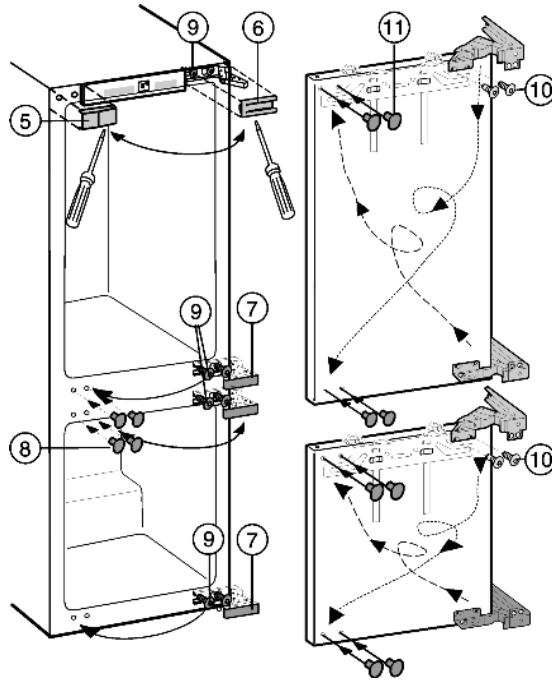

Fig. 2
- ▶ Lift off covers Fig. 2 (5,6,7,8) using a slot screwdriver.
- ▶ Just loosen top and bottom screws Fig. 2 (9) on the body of the appliance.
- ▶ Swap screws Fig. 2 (9) to the opposite side and screw them in a little.
- ▶ Undo screws Fig. 2 (10) and change over the hinges diagonally.
The screws Fig. 2 (10) are self-tapping: use a cordless screwdriver.
- ▶ Close off the now unused fastening holes with the plugs Fig. 2 (11) supplied.
- ▶ Hang doors on the pre-fitted screws Fig. 2 (9) and tighten screws.
- ▶ Re-attach all covers *Fig. 2 (5,6,7,8)*.